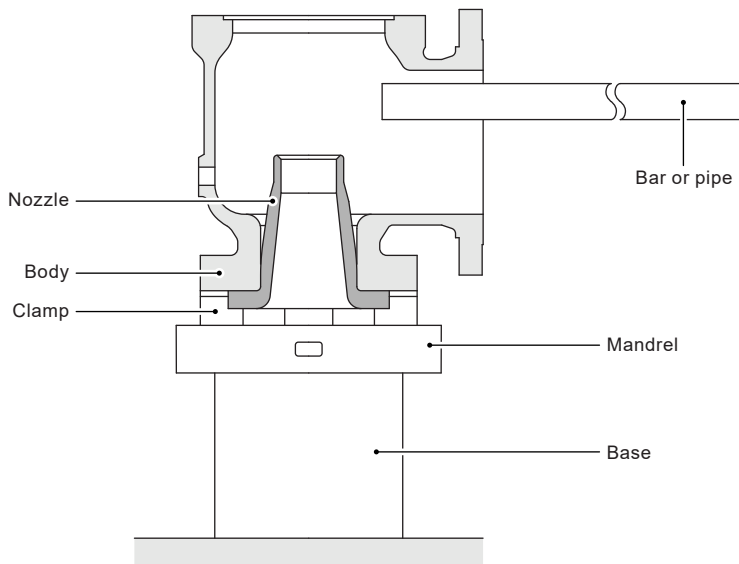

Fig. 7
9.5.1 Fit the nozzle (6) to the body (1). The final tightening must be done using the same device used for removal (see Figure 7) and turning the body clockwise. Take care when using the bar or pipe for the valve outlet connection to ensure that the nozzle is not damaged during operation.